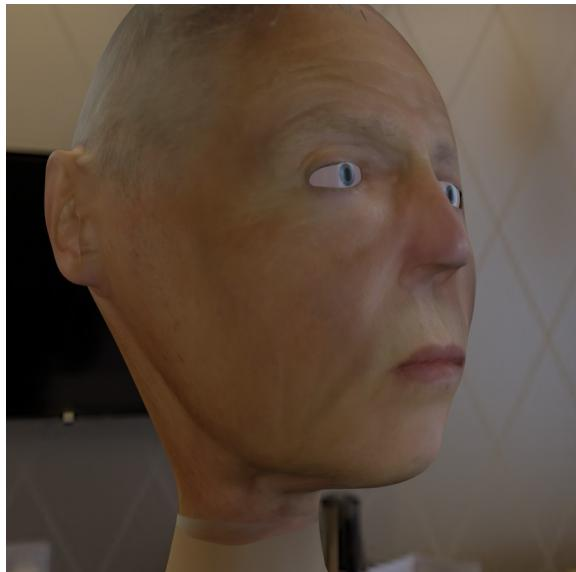

Figure 8-6 Full Texture Cloned from Perspective Images
11. You will probably find some small areas that are inadequately referenced on any one of the mugshots, and leave streaks or sharp changes in color on the head_base_color texture. You can patch these areas by toggling off Clone from Paint Slot so the cloning copies from one location on the object to another, very much like cloning in a normal image editor program. To set the location to clone from use **CTRL-LMB**. The rather disturbing hybrid of my selfies cloned onto the Person01 head are shown below in Figure 8-6.